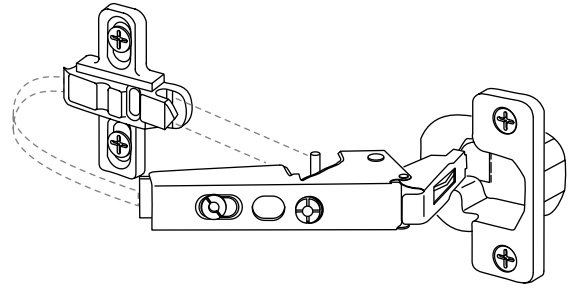

FIGURE 13
1. Reinstall the door (see *Figure 13*).